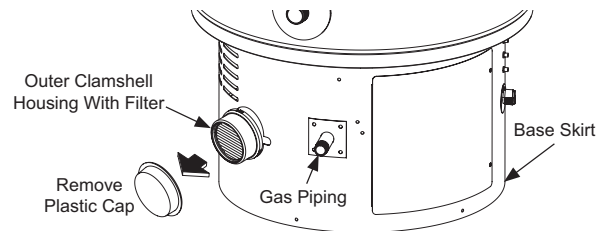

Figure 13. Remove Plastic Cap
- Remove and discard the plastic cap from the outer clamshell housing. See Figure 13.